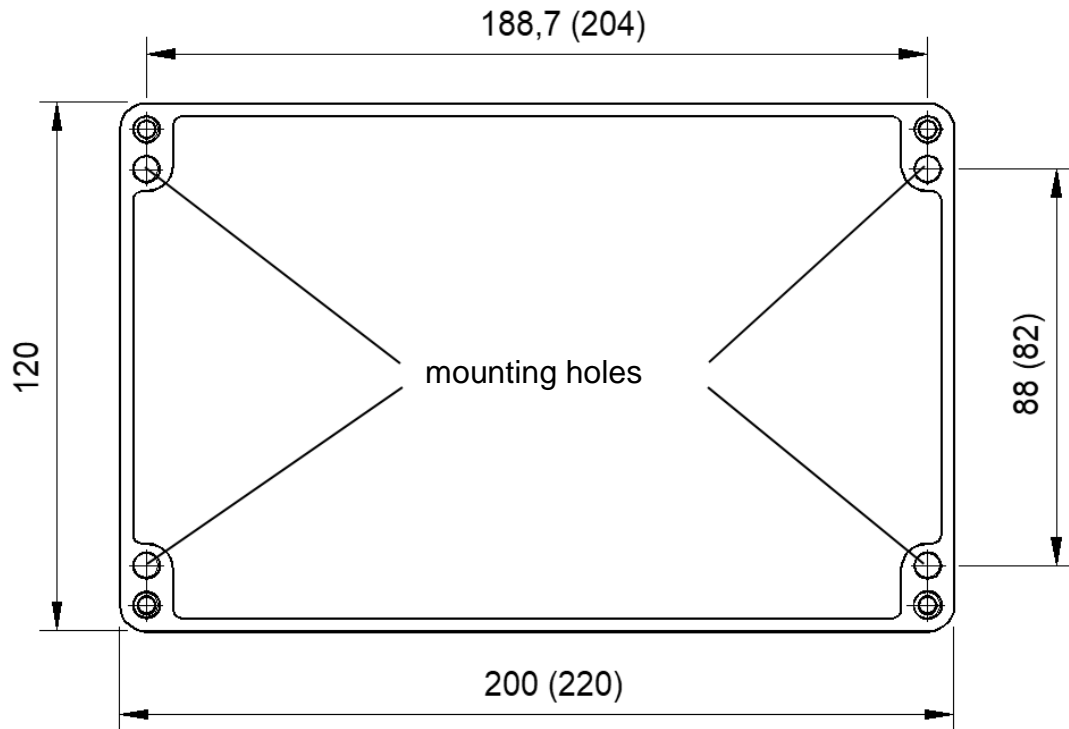

Fig. 16
- prepare mounting holes acc. to Fig. 16